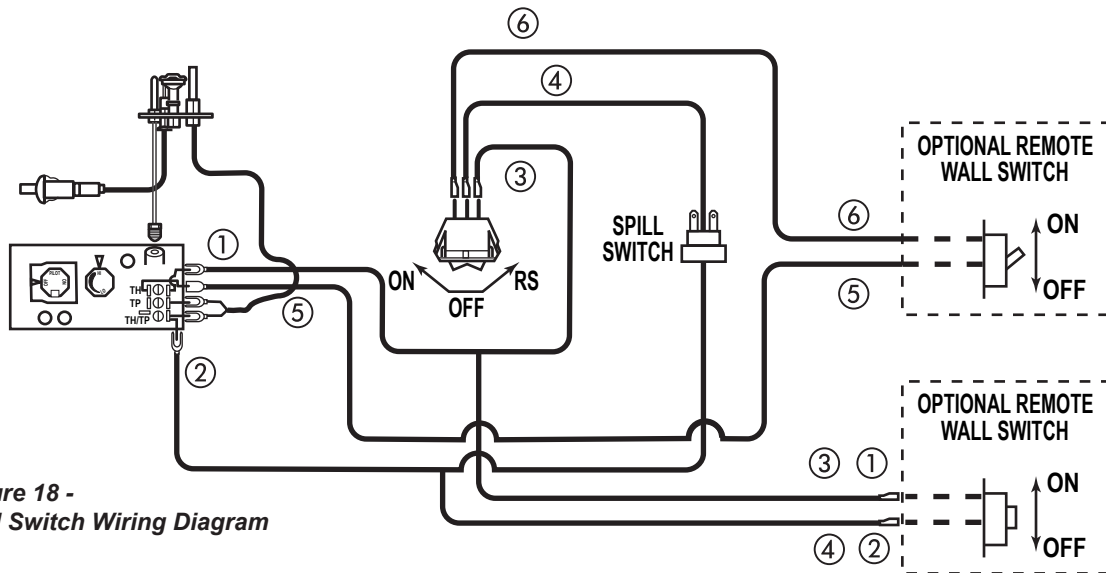

Figure 18 -
A remote wall switch and up to fifteen (15) feet of 18 Ga. wire may be used with this appliance. Attach the wall switch in a junction box at the desired location on the wall. *Figure 18*. Do not extend beyond the wall switch wire length provided.
2. Connect the wire terminal from the remote receiver. This replaces the 15' wall switch connection to the switch. *Figure 18*